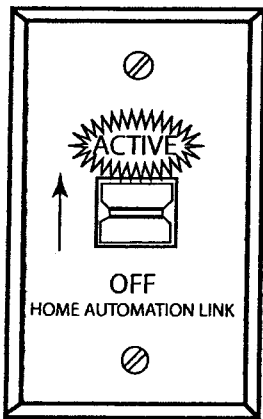
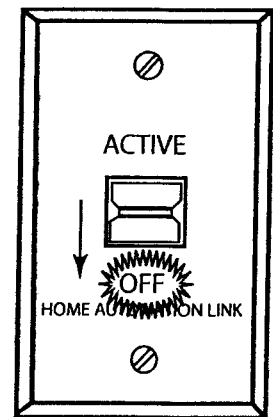

Fig. 8 AF-4000HAT switch to ACTIVE position.
Fig. 10 AF-4000HAT switch to OFF position.
- Step 2:** Slide AF-4000HAT switch to the **ACTIVE** position. See Fig.8
- Step 3:** Press and release the LEARN button on the control module and listen for a "beep". See fig. 8.
- Step 4:** Slide the AF-4000HAT switch to the **OFF** position. See fig. 10. The module will emit several beeps indicating the AF-4000HAT is now programmed and will operate with the Home Automation System when the switch is placed back in the **ACTIVE** position as shown in fig. 8.